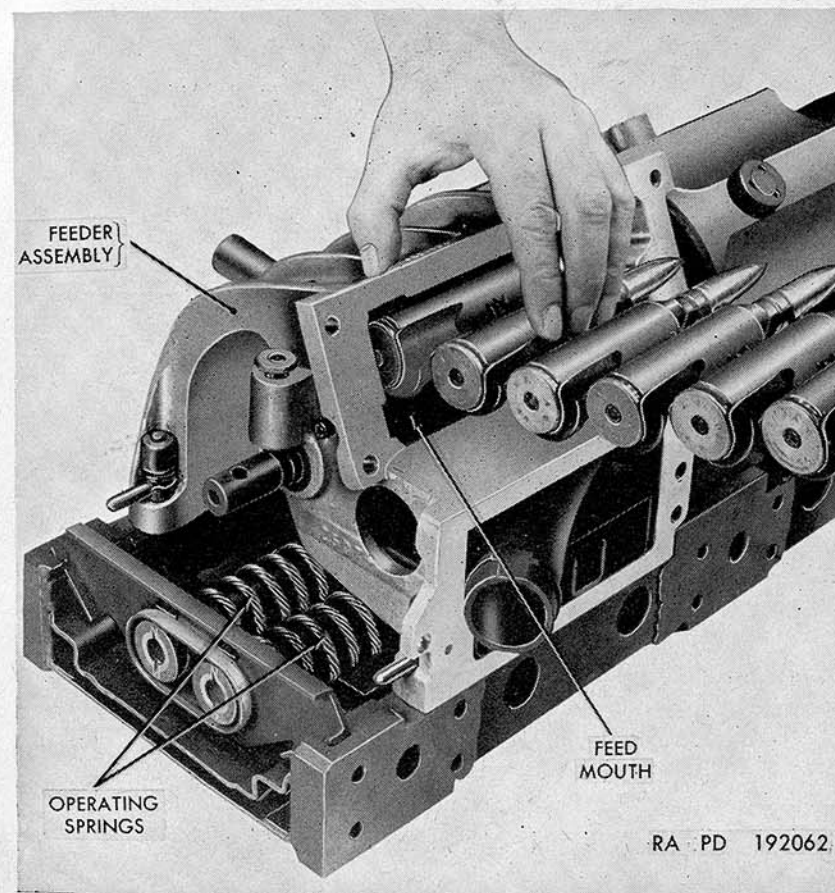
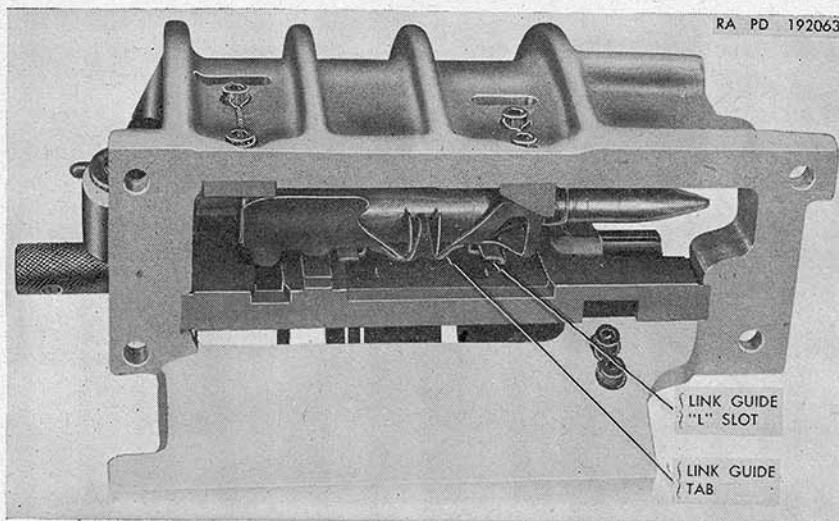

Figure 22. Loading belt into feeder assembly—feed chute removed—right-hand feed.
Figure 23. Round properly positioned in feed mouth of feeder assembly—right-hand feed.
- (3) Slide belt down feed chute into feed mouth of feeder assembly (fig. 22). Be sure that the link guide tabs (fig. 23) position themselves under the "L" slot of the link guide and the round rests firmly against the feeder sprockets. Maintain pressure against the rounds in the feeder assembly by pushing against the external rounds (fig. 22).